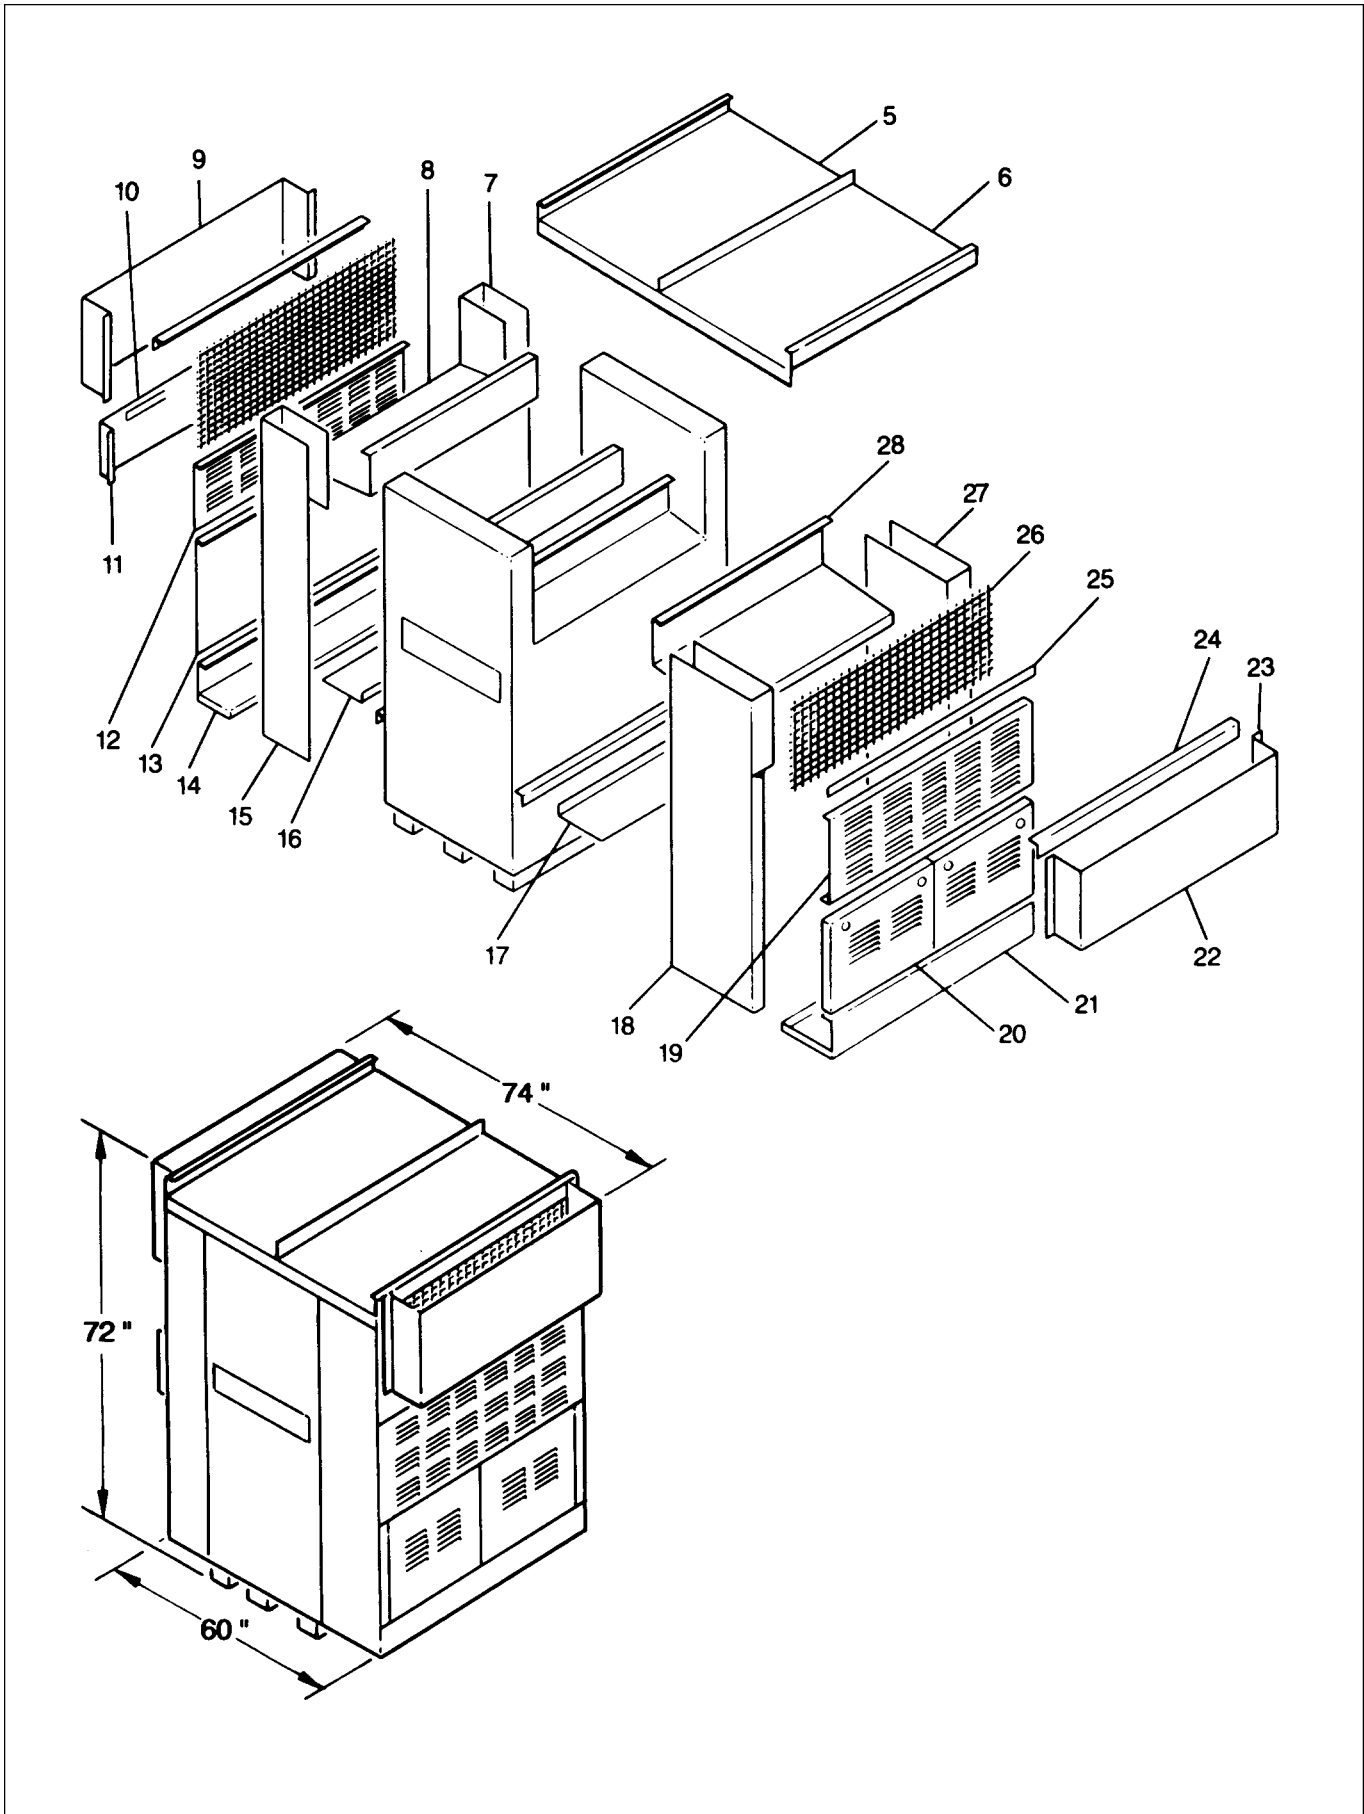

Figure 17. Outdoor Parts Identification.
Figure 17 shows the conversion completed.
6.1.2 SECTION II: (See Figure 17)
OUTDOOR KIT PARTS LIST (see Figure 17)